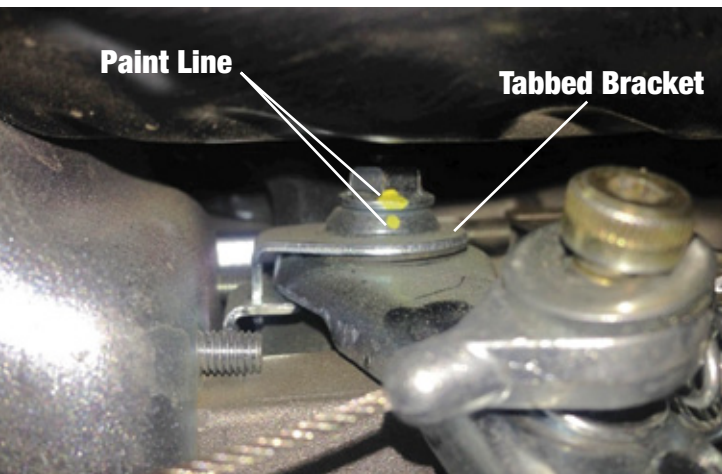

fig. 2
3. With the nut snug, **MARK** the flange of the nut and tabbed bracket beneath with a line using the paint marker as shown in figure 2.